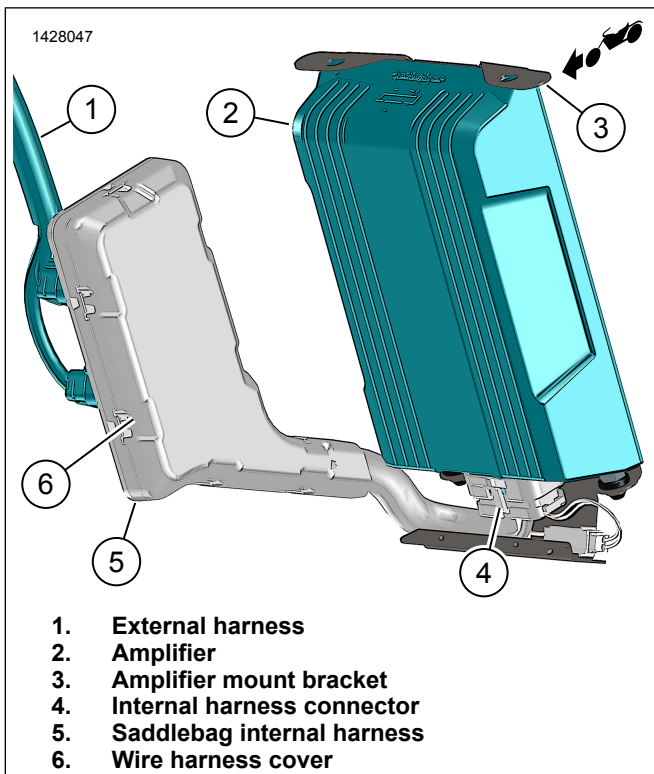
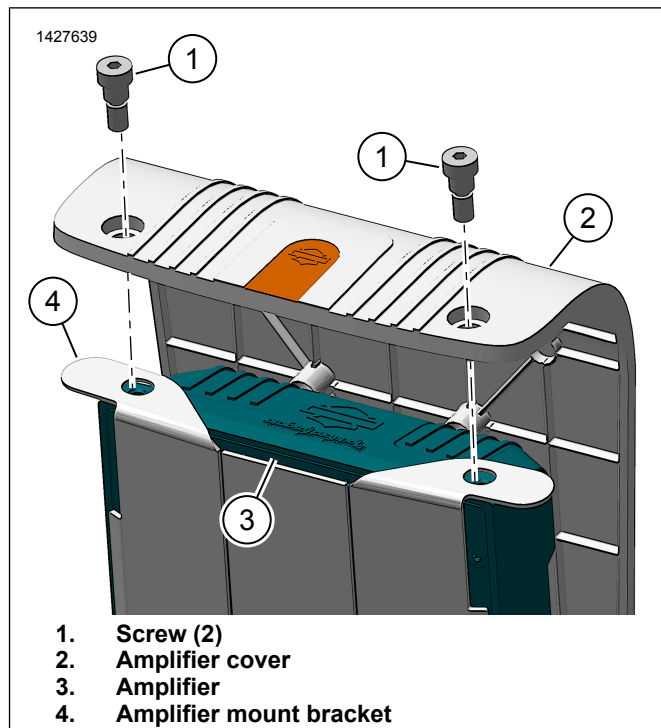

Figure 7. Left Saddlebag Amplifier Assembly
Figure 9. Amplifier Cover
6. See Figure 7. Connect internal harness connector (4) to amplifier (2).
7. Install amplifier (2) into amplifier mount bracket (3).
8. See Figure 9. Install amplifier cover (2).
9. Install screws (1). Tighten.
10. See Figure 7. Install wire harness cover (6).
See Figure 7. Make sure wire harness bundle routes into the area the under amplifier without binding or kinking. The bundle should not pull the wire harness cover (6) away from the internal harness (5).